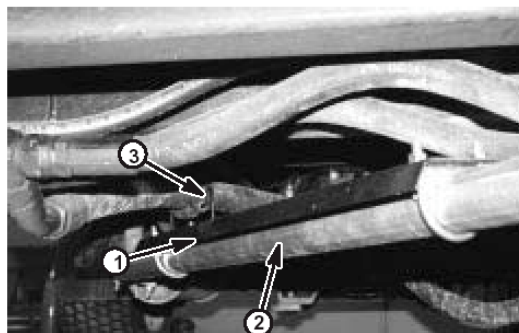

Figure 1
3. Install new extended tailpipe to end of muffler. Secure with two muffler clamps. Support with the existing tailpipe hanger and clamp (Fig. 1).
7. Install the long tailpipe shield assembly under tank and beneath hydraulic hoses for the rear wheel motors (Fig. 1). Secure with two muffler clamps.